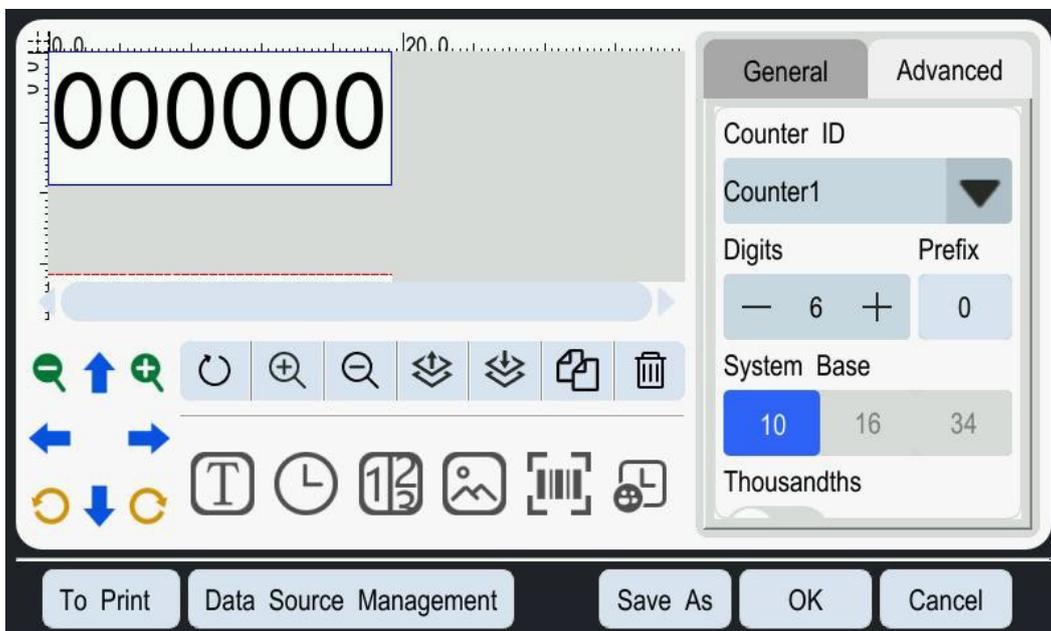

Figure 5-7: Serial Number Editing Interface
1. To print variable serial numbers (counting content that updates automatically without manual intervention), click the Counter / Serial Number button . A default serial number item will appear in the preview area, as shown in Figure 5-7.